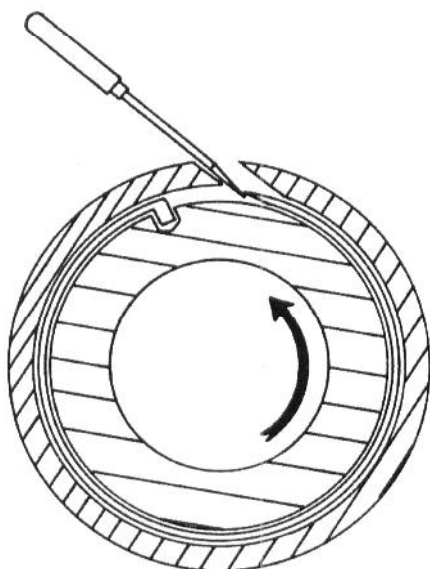

Fig. 68 — Removing Wire Retainer Ring
d. Insert a small screwdriver through hole in barrel ... and under beveled end of wire retainer. Reverse direction of bearing rotation while guiding wire retainer from hole in barrel, see Fig. 68.